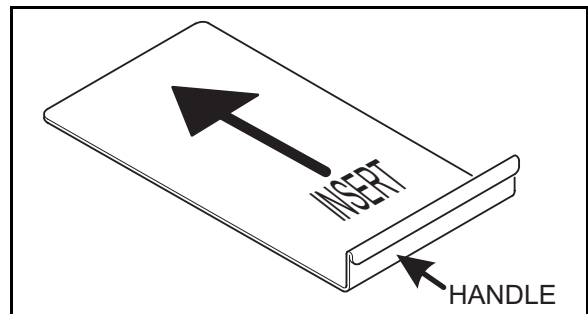

Figure 16
- On some older machines, you may need to use a special refrigeration removal tool (shoehorn) (figure 16). This tool is available from the Crane Merchandising Systems Parts Department (P/N 4310061). Or, it can be constructed out of a piece of sheet metal approximately 0.035 x 9.00 x 16.00 *with smooth edges*.